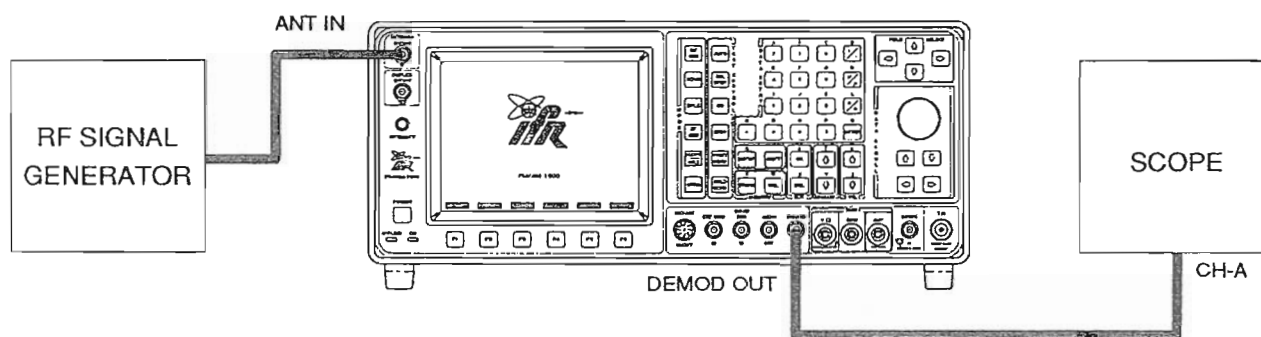

Figure 3-13 FM Calibration Test Setup
FIGURE REFERENCES: Figure 3-13
1. Apply Power to FM/AM-1600S. Allow 5 minute warm-up period. Insure IFR Logo, with no error message, is displayed on CRT (26).
2. Press RCVR MODE Key (27) to access Receive Operation Screen.
3. Connect Signal Generator output (Figure 3-13) to ANTENNA IN Connector (25).
5. Connect DEMOD OUT Connector (12) to Oscilloscope Ch-A (Figure 3-13).